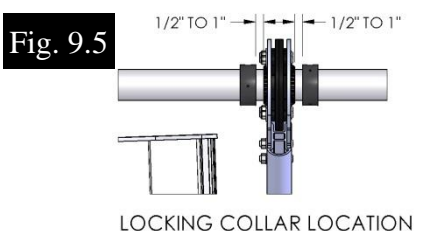

Fig. 9.5
7. Slide the second locking collar behind the rear arm bushing, see figure 9.5.